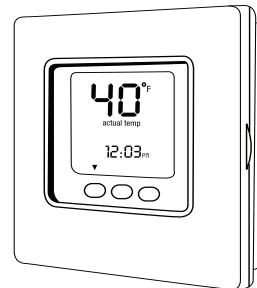

Fig. 15 – Lowest Temperature Setting
- Set your room thermostat to the lowest temperature setting and set the “MODE” to “OFF” (see Fig. 15).